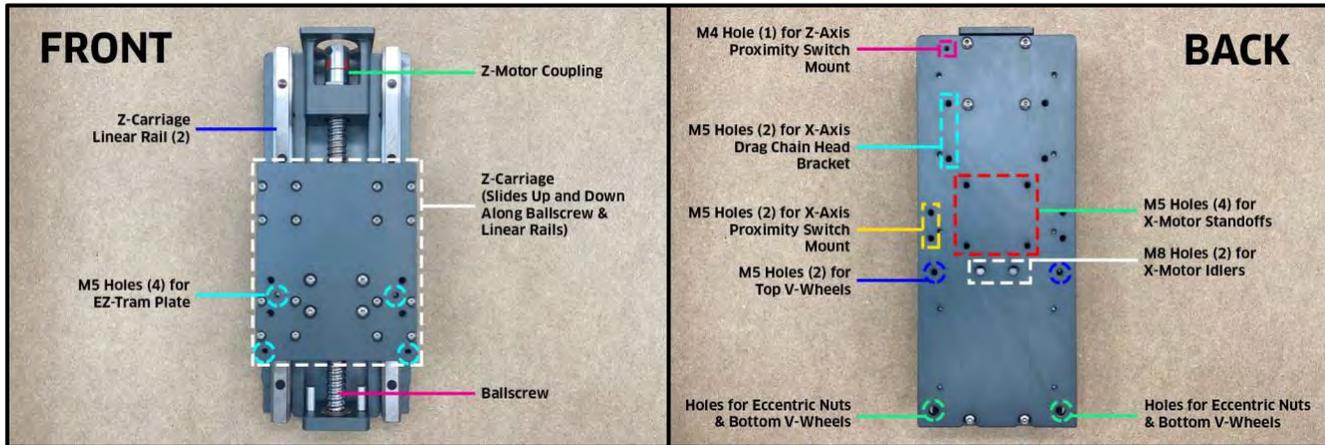

Figure 10
1. Take a minute to familiarize yourself with the front and back of the HDZ. See *Fig. 10*.